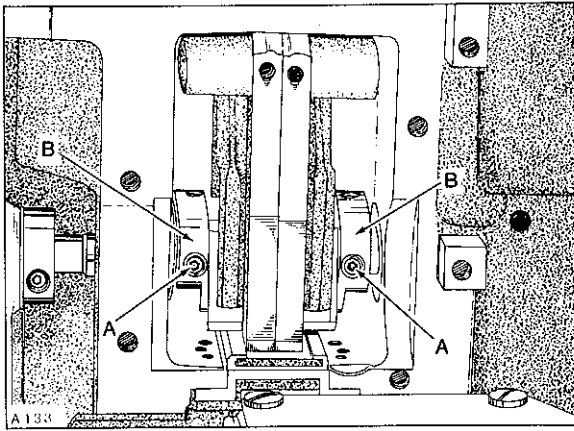
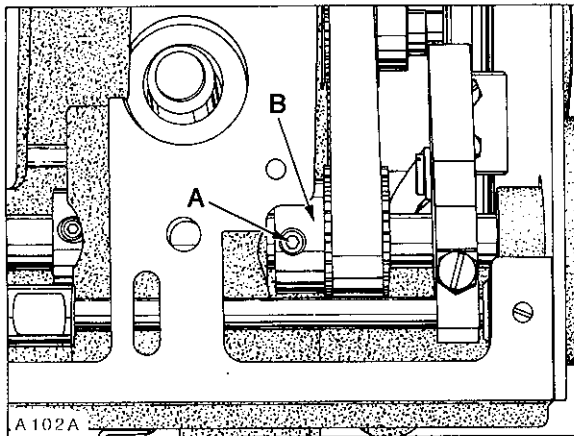

Fig. 2
Fig. 3
Adjustment would be required if the machine is feeding while the needles are in the work. This can be accomplished by removing top cover, head cover, left cloth plate, and top feed chamber cover. Rotate handwheel in operating direction to position needle bar at bottom of stroke. At this time, the first screws (A, Fig. 2) in the feed drive eccentrics (B) must be on the flat of the feed drive shaft and in a vertical position. Adjustment can be made by loosening two screws (A, Fig. 3) in upper mainshaft sprocket (B). Hold the handwheel firmly with needle bar at bottom of stroke and rotate pulley as required to position screws (A, Fig. 2) so they are vertical. Tighten screws (A, Fig. 3) securely.